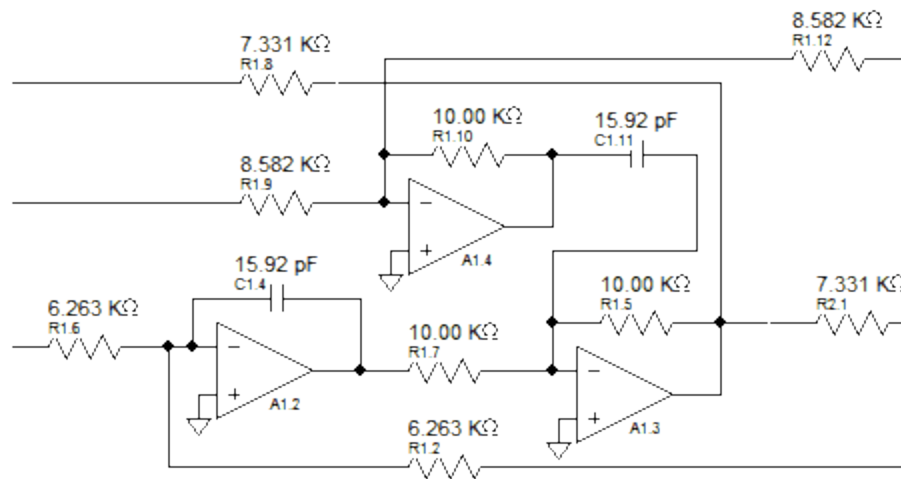

Figure B1:Leap Frog Transmission Zero Negative Gain Stage With Summed Integrator and Differentiator
2. Traditional negative gain integrator and differentiator summed together into a negative gain summer. (3 Opamps, Figure B1 Below)